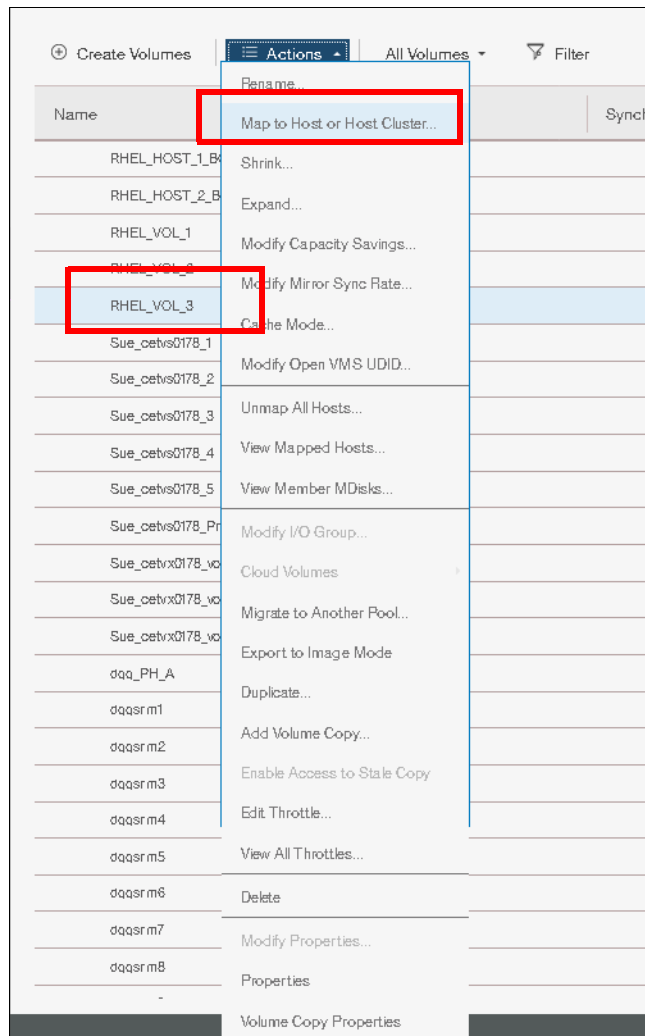

Figure 6-20 Map to Host
2. From the Actions menu, select the **Map to Host or Host Cluster** option as shown in Figure 6-20.